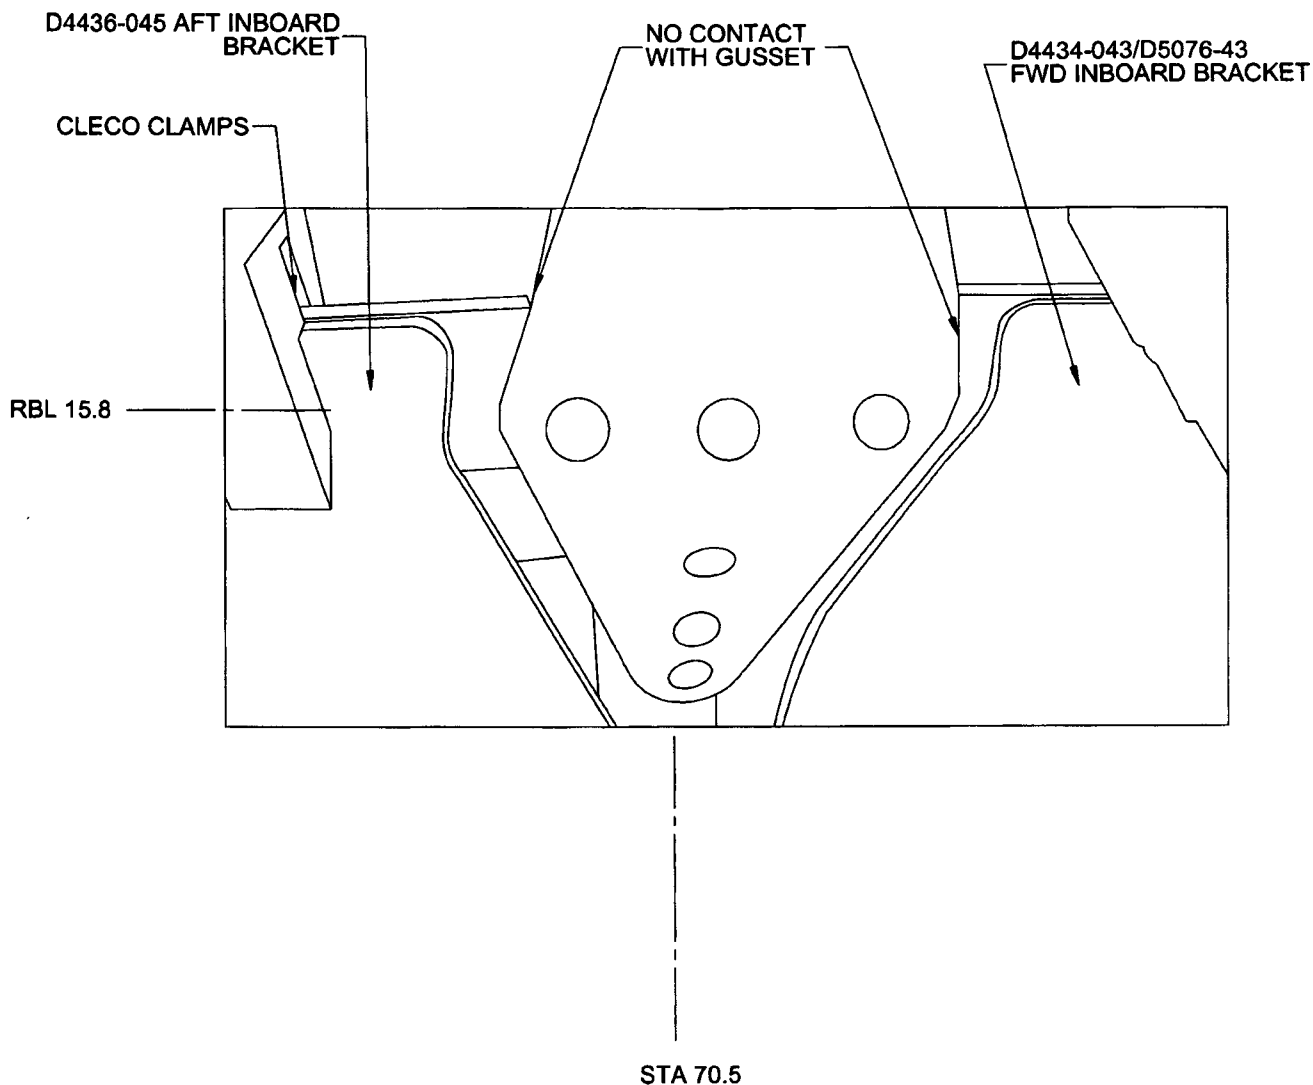

Figure 5. D4436-045 & D4434-043/D5076-043 Brackets Installation
- 4.2 Temporarily install D4434-043/D5076-043 Fwd Inboard Bracket and D4434-045 Fwd Outboard Bracket using clecos and cleco clamps. Confirm there is no contact between D4436-045 Aft Inboard Bracket and D4434-043/D5076-043 Fwd Inboard Bracket and main beam gusset as shown in Figure 5.